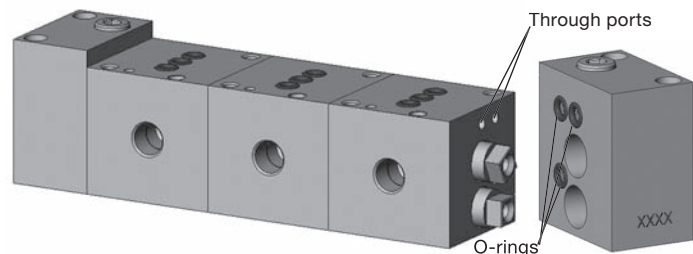

Fig. 3
5. Assemble a **right end base block** to the assembly, aligning the right end base block **O-rings** (9-007) with the through ports on the last base block. Tighten the right end base block insert screws to the base block inserts to 35 to 45 in.·lb (4.0 to 5.1 N·m) using a 9/64 in. hex torque wrench placed through the end base block. See Fig. 3.